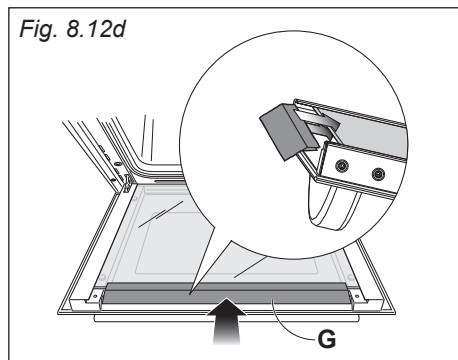

Fig. 8.12d
- Gently push the air deflector "G" back into place (fig. 8.12d).